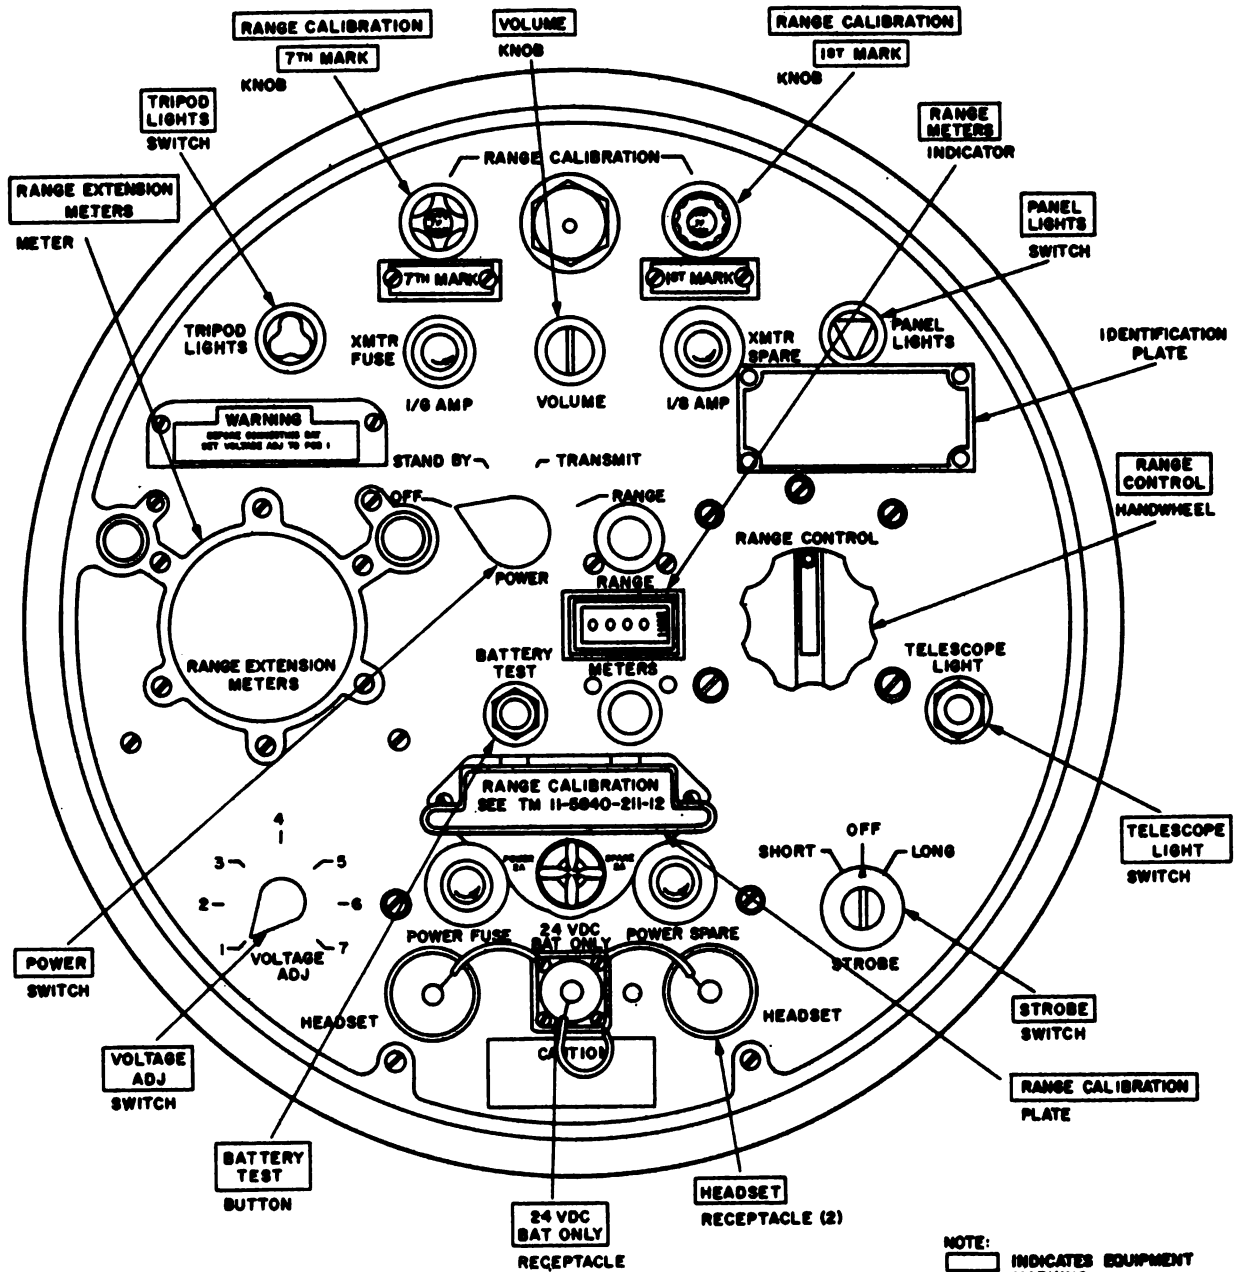

Figure 3-1. Control panel.
Connect the power cable between the 24 VDC BAT ONLY receptacle on the control panel (fig. 3-1) and the power outlet receptacle on the battery. When the power source is other than a 24-volt battery, make sure that the peak voltage input applied to the radar set does not exceed 24 volts. Damage to the radar set will result if higher voltage is applied. The radar set has a negative (—) input ground; the negative (—) terminal of the 24-volt input source must be connected to the radar set chassis ground or the radar set will not operate.
f. Headset Connection. Connect one (or both) of the headsets to the receiver-transmitter by plugging the connector of the headset cable into the HEADSET receptacle on the control panel (fig. 3-1) and twisting the connector clockwise.
3-2. Receiver-Transmitter Controls and Indicators (fig. 3-1)
b. *Fuses.* Check to see that the XMTR FUSE (fig. 3-1) and the XMTR SPARE fuses are rated at 0.125 ampere. Check to see that the POWER FUSE and the POWER SPARE fuses are rated at 2 amperes (para 4-10).
c. *Controls and Instruments.* Make sure that there is no physical damage to the controls and instruments on the control panel of the radar set (fig. 3-1).
a. Set the power switch (fig. 3-1) to TRANSMIT. Set the STROBE switch to OFF. Aim the receiver-transmitter at a moving target 200 meters to 500 meters away from the radar (example: man waving his helmet or rotating corner reflector). Adjust range, and move the R/T unit in azimuth and elevation for maximum sound in the earphones.
- a. Set the POWER switch (fig. 3-1) to TRANSMIT.
The value specified on the RANGE CALIBRATION plate (fig. 3-1) will vary for each individual radar set.
a. Set the POWER switch (fig. 3-1) to RANGE.
3-11. Installation Performance Check (fig. 3-1)
3-12. Preliminary Control Settings (fig. 3-1)
c. Set the RANGE CONTROL handwheel (fig. 3-1) so that the RANGE METERS indicator is set to the minimum distance at which a target can be detected (approximately 40 meters).
e. When a target is detected, the range of the target can be determined in several ways, depending on the type of strobe (OFF, SHORT, or LONG) used when detection is made. With the STROBE switch set to OFF, LONG, or SHORT ((1) and (2) below), a maximum loudness of the audio signal in the headset will provide the most accurate range information. Note that the only indication of fixed targets is indicated by a backward deflection on the RANGE EXTENSION METERS meter.
(1) With the STROBE switch set to OFF (normal mode) and with the receiver-transmitter and RANGE CONTROL handwheel positioned to produce a maximum loudness of the audio signal in the headset from a detected target, the indication on the RANGE METERS indicator will be the distance between the target and the radar set in meters.
(2) If the STROBE switch is set to LONG or SHORT, the approximate distance to the target will be the RANGE METERS indicator reading plus the indication on the RANGE EXTENSION METERS meter. As the meter pointer continues its 500-meter sweep, approximate the position of the target within the sweep by noting the position of the pointer when the detected sound is heard.